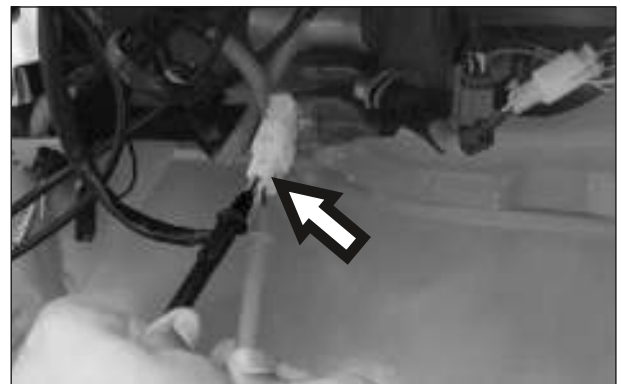

Fig. 6.78
- Place the multimeter position in continuity inspection mode, connect '+ve' probe of multimeter in orange (Or) wire and '-ve' probe of multimeter red (R) wire from ignition switch as shown in (Fig. 6.78) a Beep sound should be heard when ignition switch is in ON position and should switch off when turned to off position.